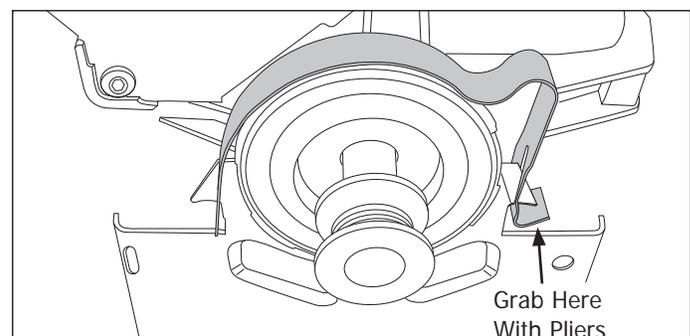

Figure 4-36.
5. Using a pliers, grab the motor clip at its outer edge, then push down and away from the motor mounting bracket until free of retaining tab. Remove motor clip from motor assembly. (See Figure 4-36)